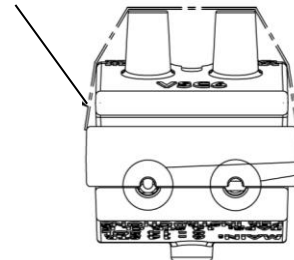

FIGURE 3
STEP 6(a): Review Connector Features (see FIGURES 3 and 4) STEP 6(b): Remove TAP TORQUE Reminder Label (see FIGURES 3 and 4)